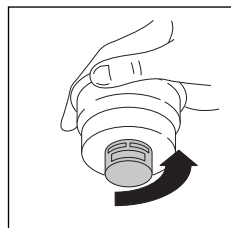

fig. 22
- Remove the crema enhancer cup (fig. 22) by unscrewing in the direction indicated by the arrow on the cap.